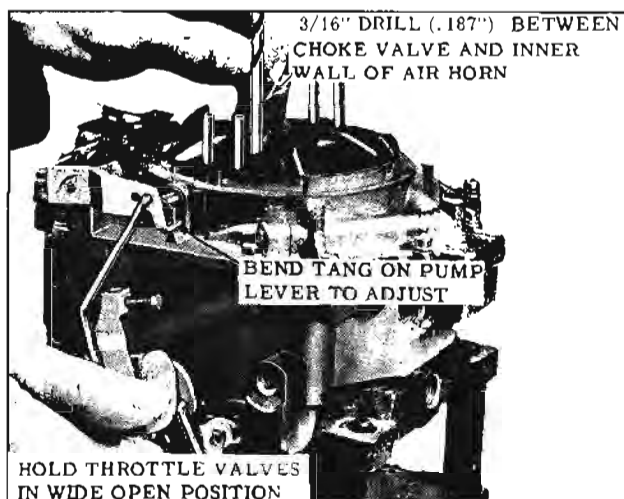

Fig. 9-192 Unloader Adjustment
2. While holding the throttle lever in the wide open position (with carburetor off car), or with accelerator pedal completely depressed (with carburetor on car), check the clearance between the top edge of the choke valve and the dividing wall. The correct clearance is .115". (Fig. 9-192)